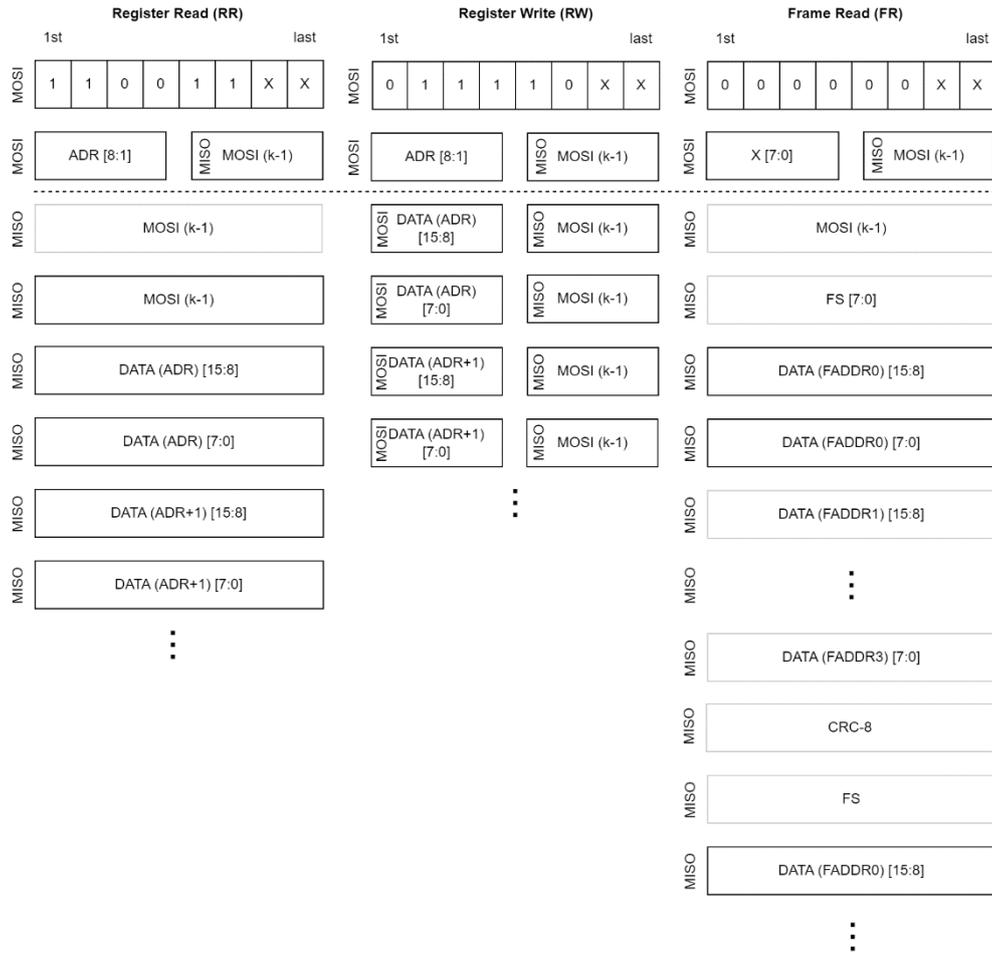

Figure 15: SPI Protocols for Read/Write and Frame Read
Data exchange is possible with three different SPI protocol variants: Register Read (RR), Register Write (RW) and Frame Read (FR). The structure of the protocols is shown in Figure 15. All transactions start with a command byte followed by an optional address byte. For Register Read and Register Write, the 6-bit command pattern shall match exactly. In case of mismatch, the device always responds as in Frame Read mode. RR and RW modes are active while CS = 0 ignoring the *GPIO\_IF[4:3]* setting. Using FR mode needs a configuration of *GPIO\_IF[4:3] = 2* (SPI-Bus mode). The address byte ADR refers to the IC address space shown in Section 9. As the LSB of the 9-bit address ADR is always “0”, only the upper 8-bit part of the address is used for RR, RW and FR operations.